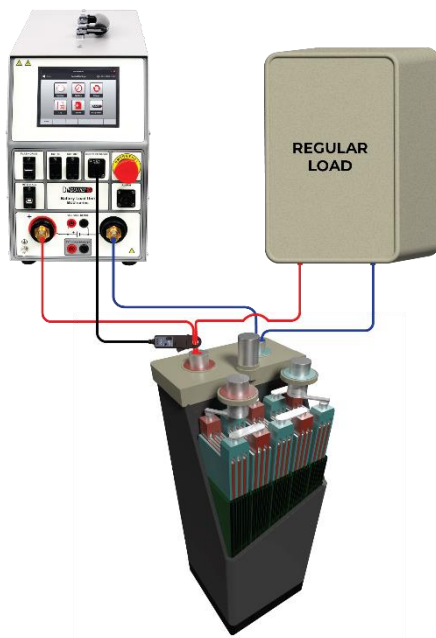
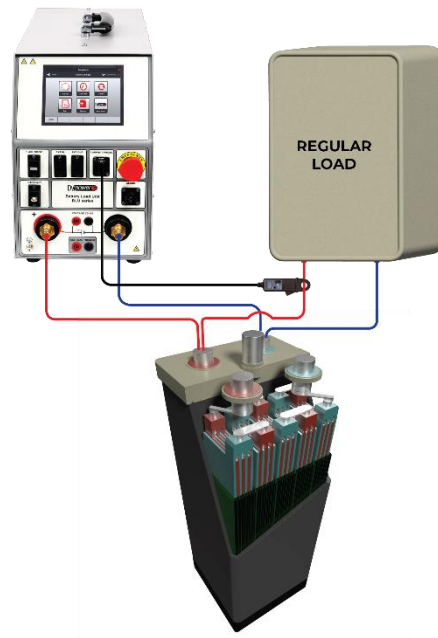

Figure 3-14a: Battery current mode
Figure 3-14b: Load current mode
1. To measure the total discharge current (**Battery current mode**), Figure 3-14a;
2. To measure currents of all extra loads (BXL-T, regular load, etc), except the BLU230T current (**Load current mode**), Figure 3-14b.
Connection diagrams of “BLU230T to battery” when regular load remains connected to the battery are presented in Figure 3-14a and Figure 3-14b.